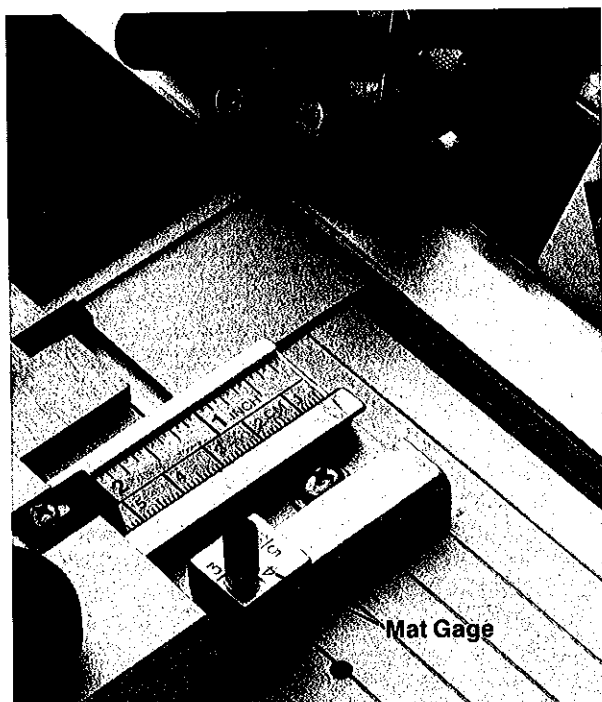

Figure 21
3. Place the **Locator Pin** through the **Mat Gage** and into the 2" hole as before. You will notice the **Mat Gage** can be rotated. Turn it so the side labelled " $\frac{3}{16}$ " is to the left. Move the **Mat Guide** into contact with the **Mat Gage** and tighten the **Locking Knobs**. (See Fig. 21).